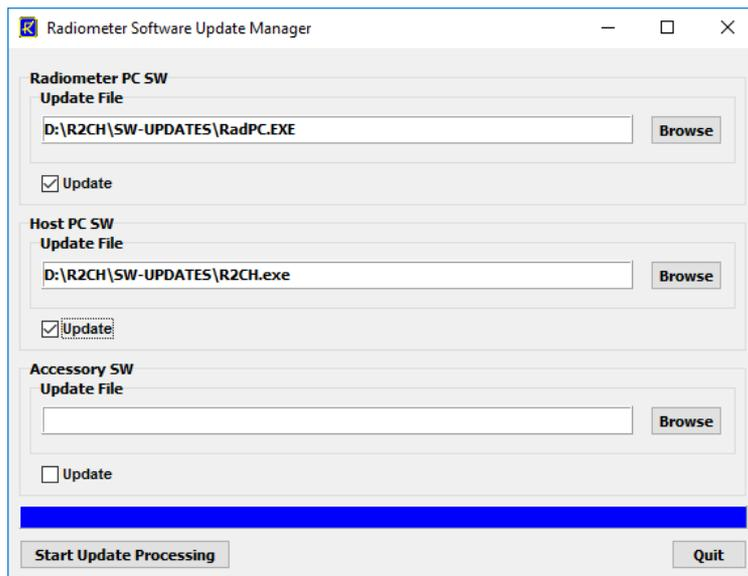

Fig.4.2.2: Software Update Manager window
- a) Enter the Software Update Manager ( , Fig 4.2.2).